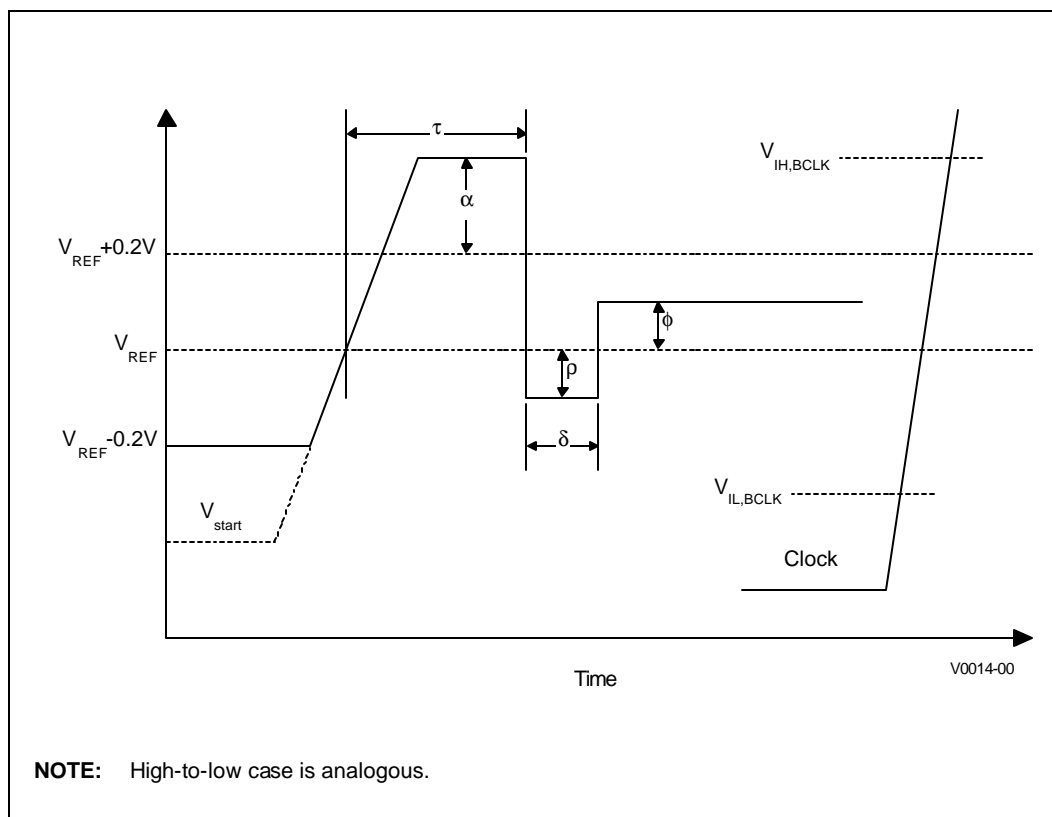

Figure 4.2 Low to High, Low Power GTL+ Receiver Ringback Tolerance
Table 4.2 and Figure 4.2 illustrate the Low Power
1. Specified for the edge rate of 0.3 – 0.8 V/ns. See Figure 4.2 for the generic waveform.